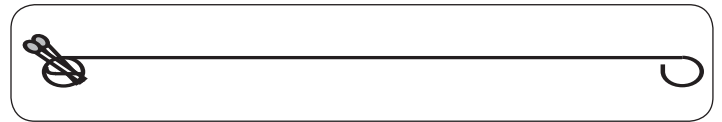
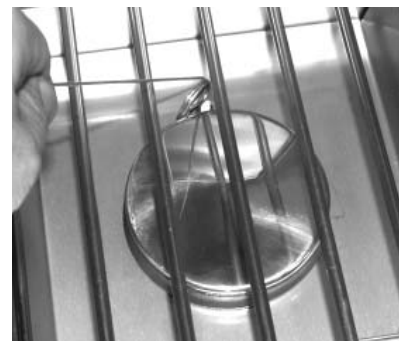

Fig. 9-2 - Match holder
Fig. 9-3 - Manual lighting
2. Insert either a burning long-barrel butane lighter, a burning long-stem match, or a burning match held by a wire extension holder (Fig. 9-2) through the cooking grids to the burner (Fig. 9-3). Hold the flame against the edge of the burner.
**REMEMBER:** FOR SAFE MANUAL LIGHTING, PLACE A BURNING MATCH OR BUTANE LIGHTER BESIDE THE BURNER - **THEN TURN ON THE GAS** (see Fig. 9-3).